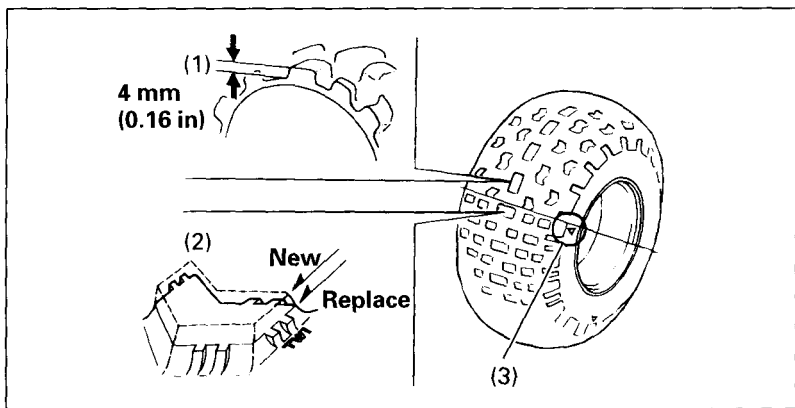

Fig. 4-35
To check the condition of a tire tread, measure the groove depth (1) in the center of the tire, or check the wear indicator (2) as shown in Fig. 4-35.